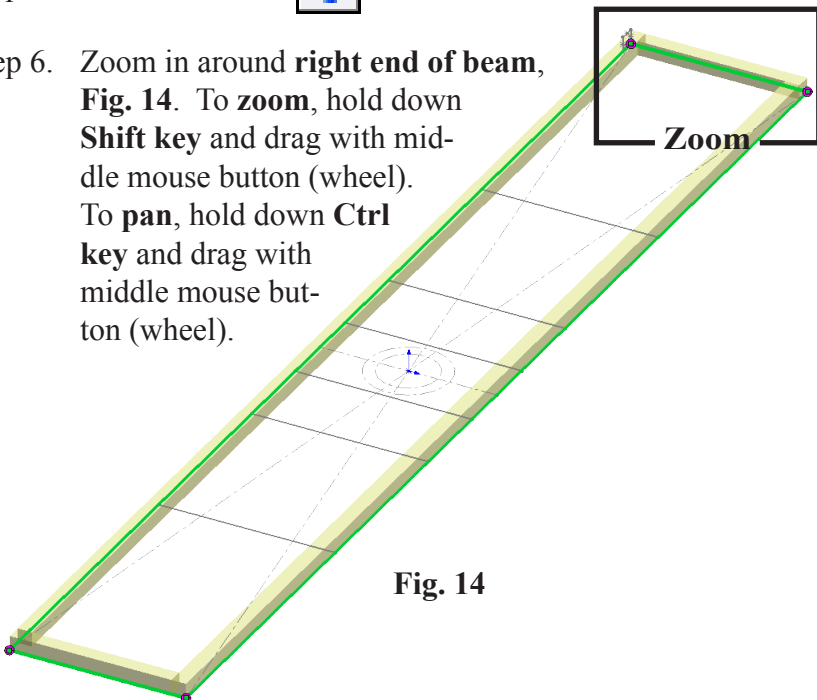

Fig. 14
Step 6. Zoom in around **right end of beam**, Fig. 14. To **zoom**, hold down **Shift** key and drag with middle mouse button (wheel). To **pan**, hold down **Ctrl** key and drag with middle mouse button (wheel).